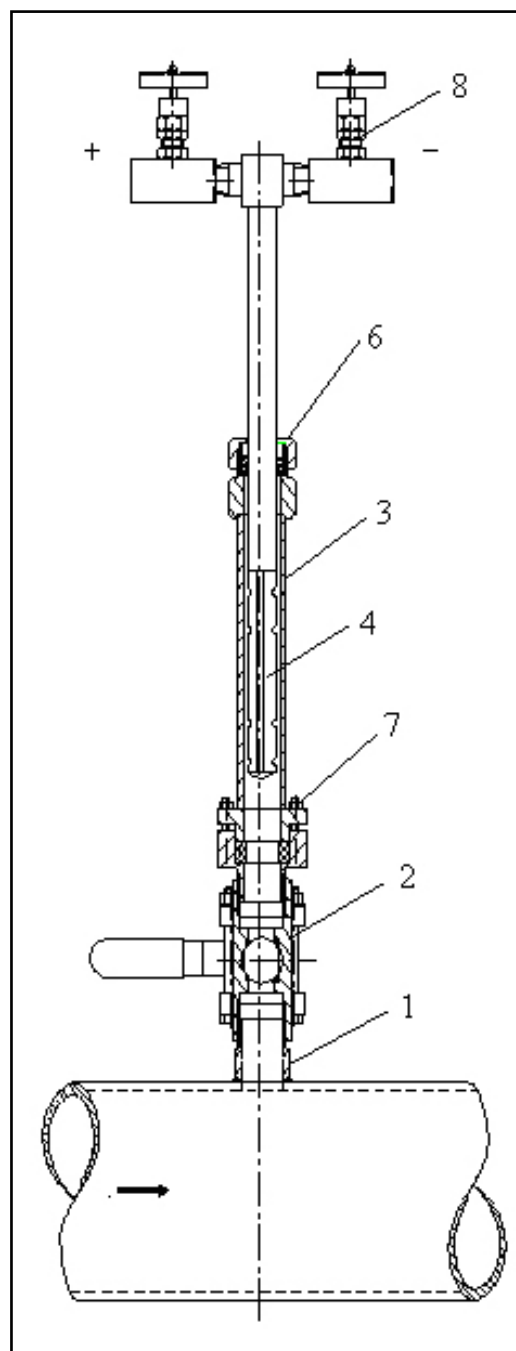

Fig. 13 Insertion / Retraction of FTN type flow sensor
1. Verify that the Flo-Tap inser-retract mechanism is in the position as shown in fig 13.
3. Retract the Flo-Tap [4] until the probe is completely retracted (see fig. 13)